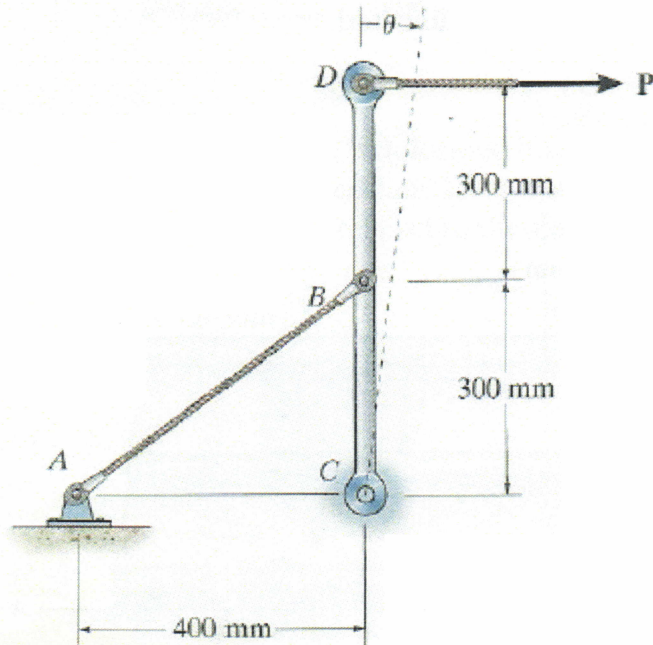

Figure Q1(b)
- (b) Part of a control linkage for an airplane consists of a rigid member CBD and a flexible cable AB as shown in **Figure Q1(b)**. Originally, the cable is unstretched for both cases.